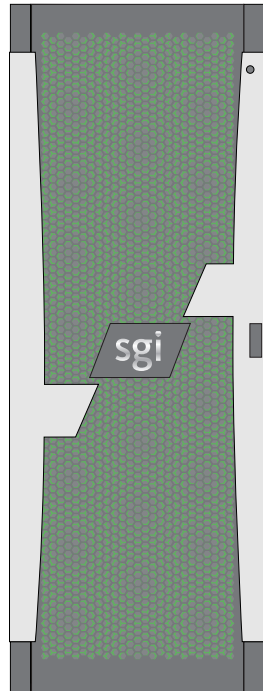
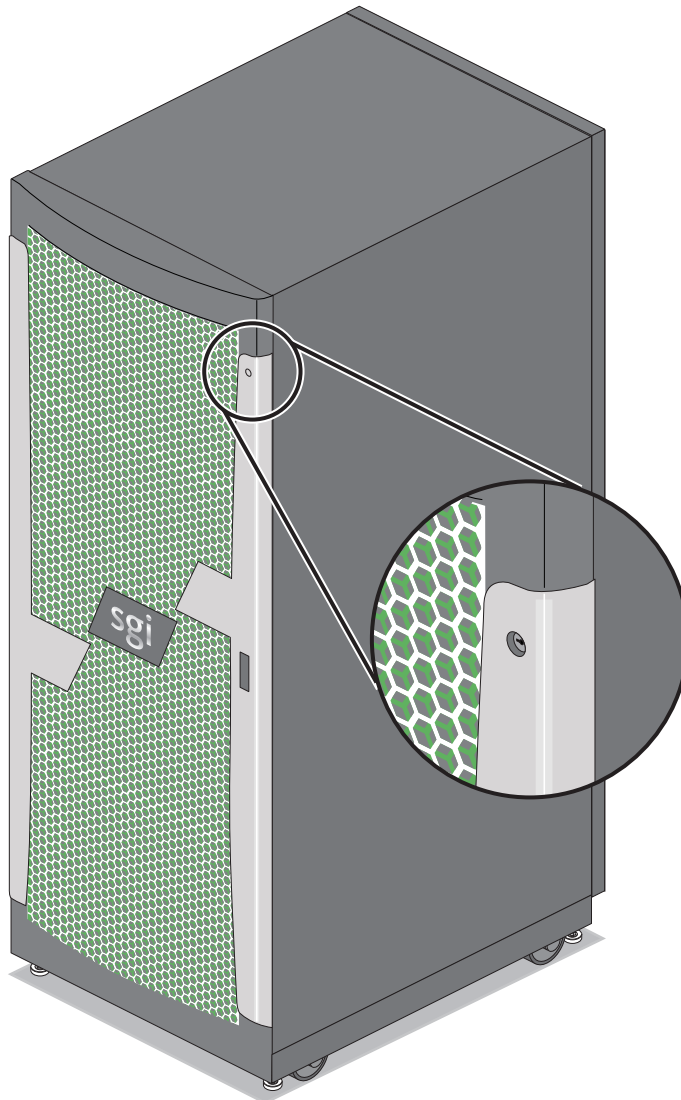
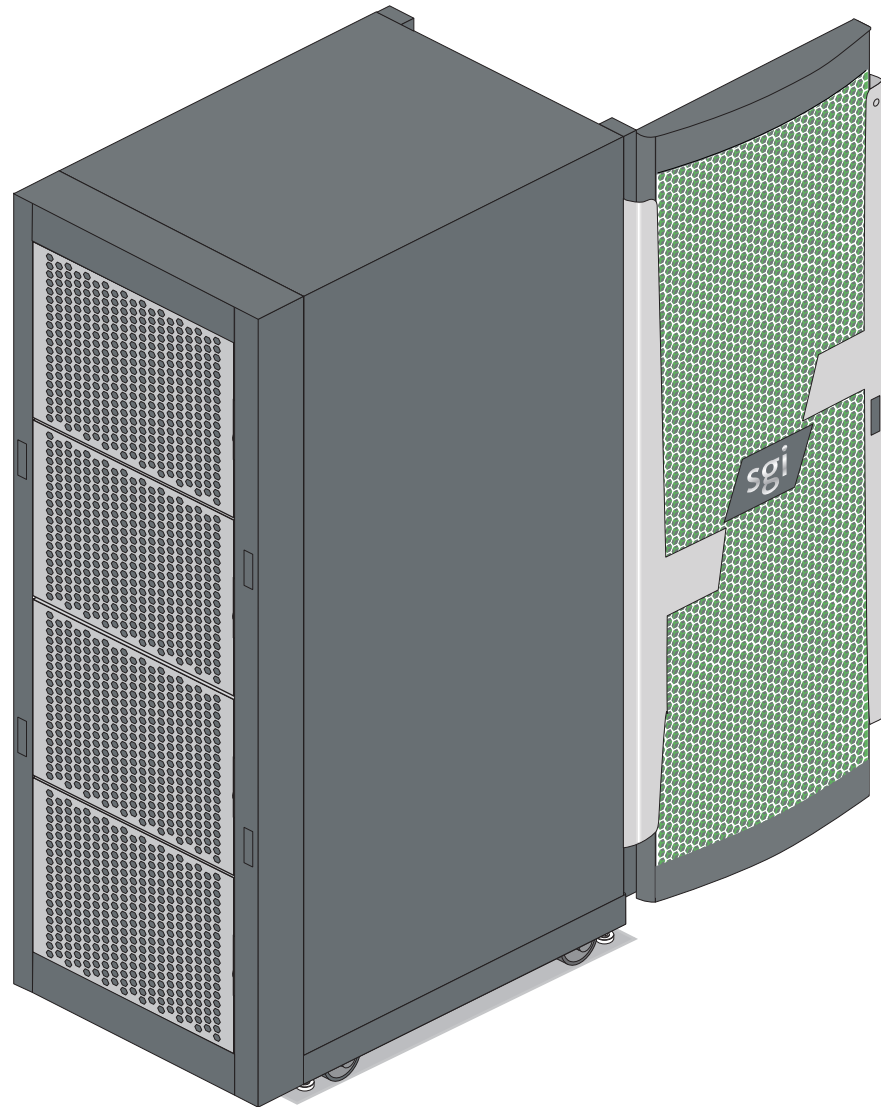

Figure 4-1 SGI UV 300 42U Rack Example
Figure 4-2 Front Lock on Tall (42U) SGI 300 Rack Example
Figure 4-3 Optional Water-Chilled Doors on Rear of 42U Rack
At the time this document was published the 42U SGI racks (example shown in Figure 4-1 on page 47), were available from the SGI factory for use with UV 300 systems. Other racks may be available to house the system UV chassis, see the section “Third-Party Rack Mounting Information” in Chapter 7 for general rules on using 3rd-party racks with UV 300 systems.
- **Front and rear door.** The front door is opened by grasping the outer end of the rectangular-shaped door piece and pulling outward. It uses a key lock for security purposes that should open all the front doors in a multi-rack system (see Figure 4-2 on page 48).
Note: The front door and rear door locks are keyed differently on all racks. The optional water-chilled rear door panels on the 42U rack (see Figure 4-3 on page 49) do not use a lock.
Figure 4-1 shows an example of the 42U SGI rack used with the SGI UV 300 systems. Figure 4-2 on page 48 shows the front lock location for the 42U rack. Figure 4-3 on page 49 shows an example of the optional water-chilled cooling units on the 42U rack.